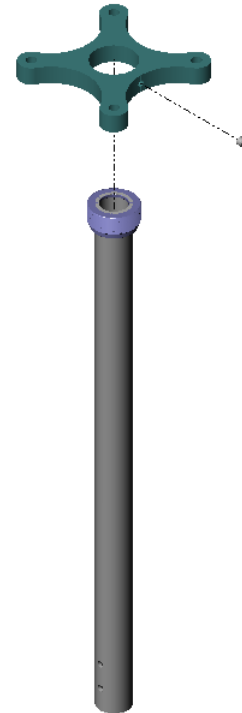

Figure 1. Outer Column Installation
3. Thread the outer column with pipe adapter securely into the ceiling plate (see Figure 1).